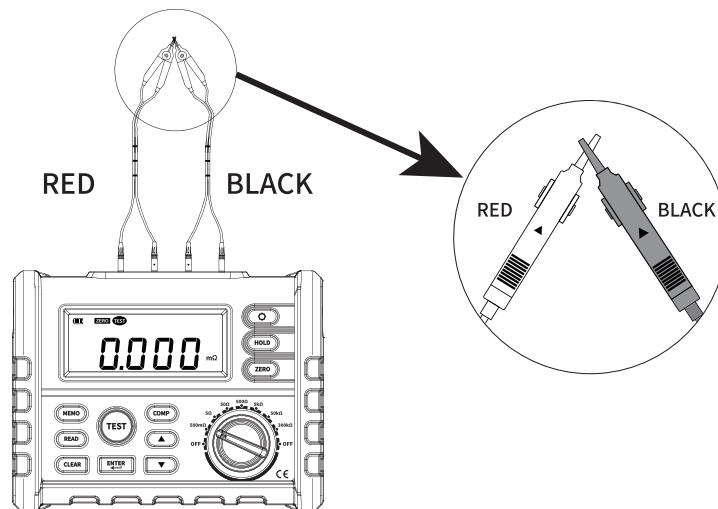

Figure 5-1
5. When testing low resistance (500.0mΩ range), perform a zero adjustment first to improve measurement accuracy. To zero the reading: connect the test leads to the tester's terminals as specified, then clamp the test clips in the following sequence: Black (marked with ▲) → Red (marked with ▲) → Black (unmarked with ▲) → Red (unmarked with ▲), as shown in Figure 5-1. Press the Test Key. After the reading on the screen stabilizes, briefly press the Zero Key. The "Zero" symbol will be displayed on the screen, indicating that the zero adjustment is complete. (Note: When measuring low resistance, failure to perform correct zero adjustment will affect measurement accuracy.)